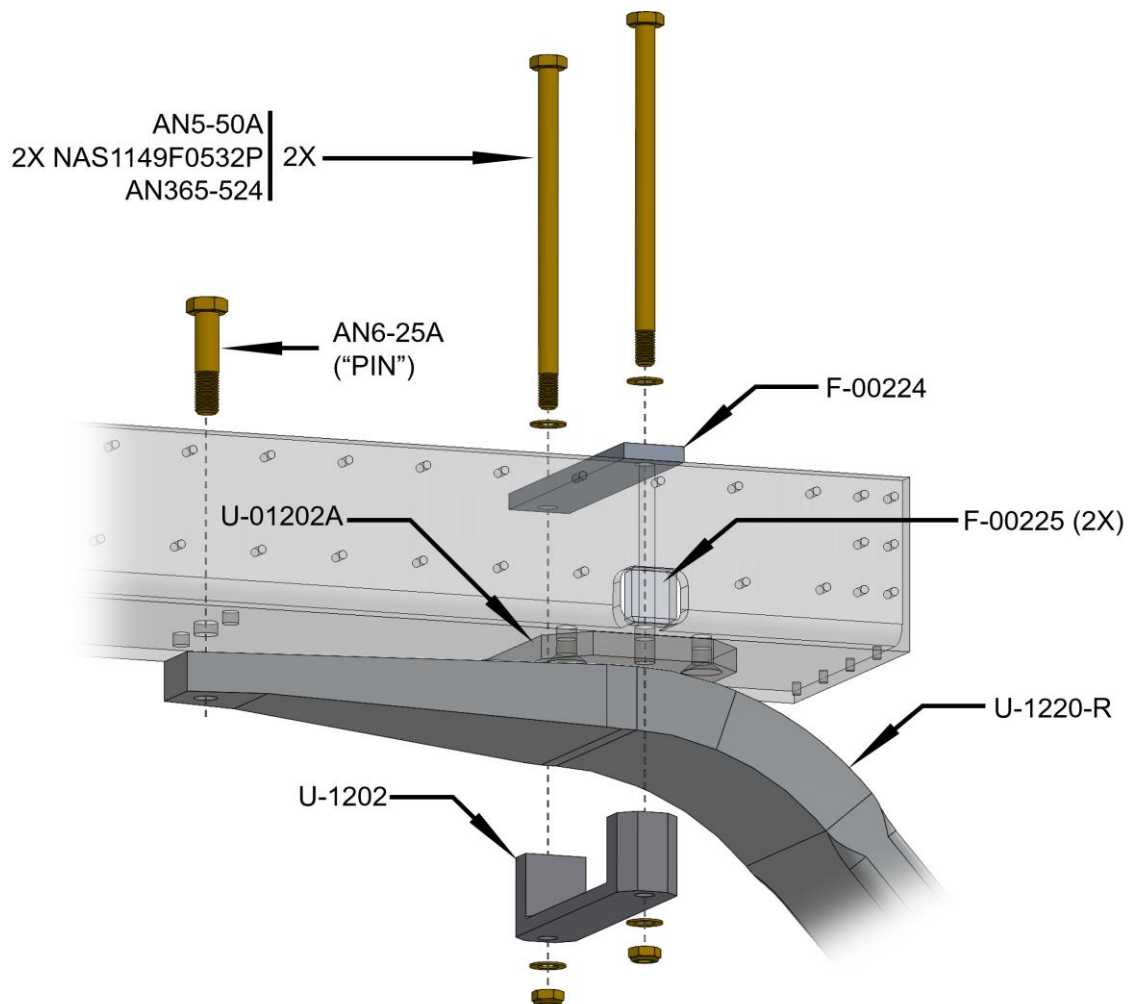

FIGURE 12: INSTALLING THE GEAR LEG
Step 48: On the right side of the airplane, maneuver the U-1220-R Gear Leg and U-1202 Outboard Main Gear Attach Bracket into position at the same time as shown in Figure 12.